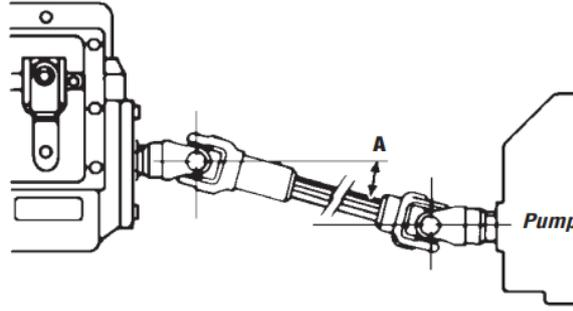

Figure 3
2. When calculating the angle during mounting a combination of top (A) and side (B) view of the shaft must be taken into consideration. ( See Figure 3)